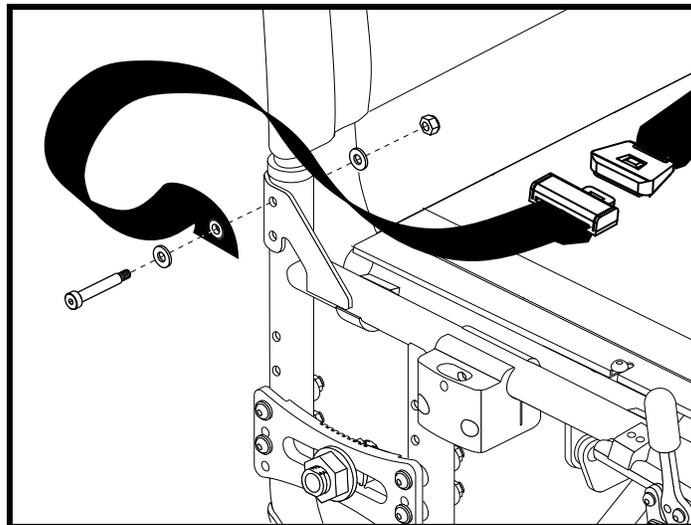

Figure 42. Positioning Belt Installation
Your wheelchair may be equipped with a positioning belt that can be adjusted for operator comfort. See figure 42. The positioning belt is designed to support the operator so that he/she does not slide down or forward in the seat. The positioning belt is not designed for use as a restraining device in a motor vehicle.
1. Remove and discard the screws on both the left and right back canes. See figure 42.
2. Insert the longer screws through the positioning belt and then through the back canes on each side of the wheelchair seat. See figure 42.